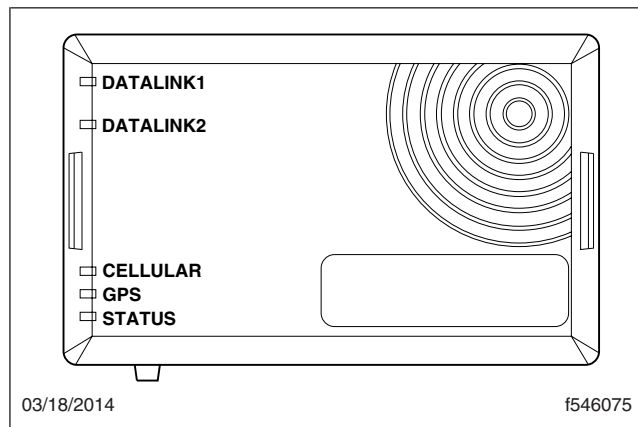

Fig. 1, Virtual Technician HU LEDs
- 6.2 If no LEDs light up with the ignition ON, diagnose supplied power and ground to the unit. See Fig. 1 and Table 3. There are seven LEDs visible on the VT module. Start the vehicle and drive to an open area, at least 40 feet (12 meters) away from any buildings. Park the vehicle and keep the ignition in the ON position. Apply the parking brake.